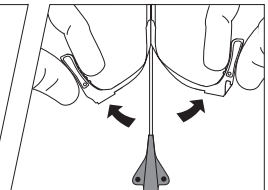

Figure 6
29. Withdraw peel-away sheath over catheter until sheath hub and connected portion of sheath is free from venipuncture site. Grasp tabs of peel-away sheath and pull away from the catheter (refer to Figure 6), while withdrawing from vessel until sheath splits down its entire length.